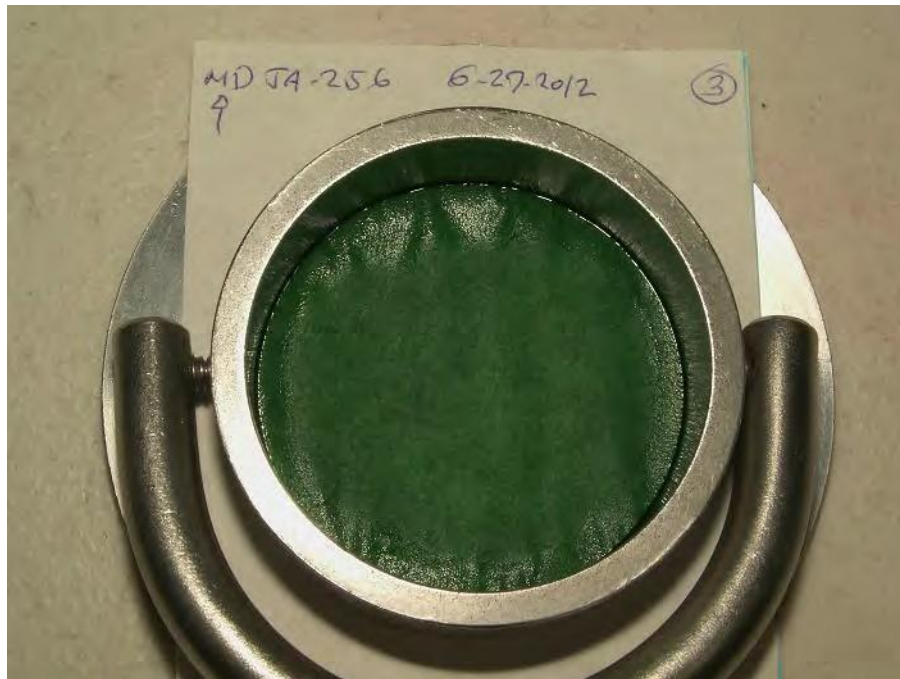

Figure 2-2: The operator is pouring the 10-mL of test ink onto the sample and simultaneously pressing the **Test** button to begin the test.
10. Pour 10 ml of test ink ⁽¹⁾ on the sample and simultaneously press the **Test** button. The “**Testing**” light will illuminate. **See Figure 2-2.**